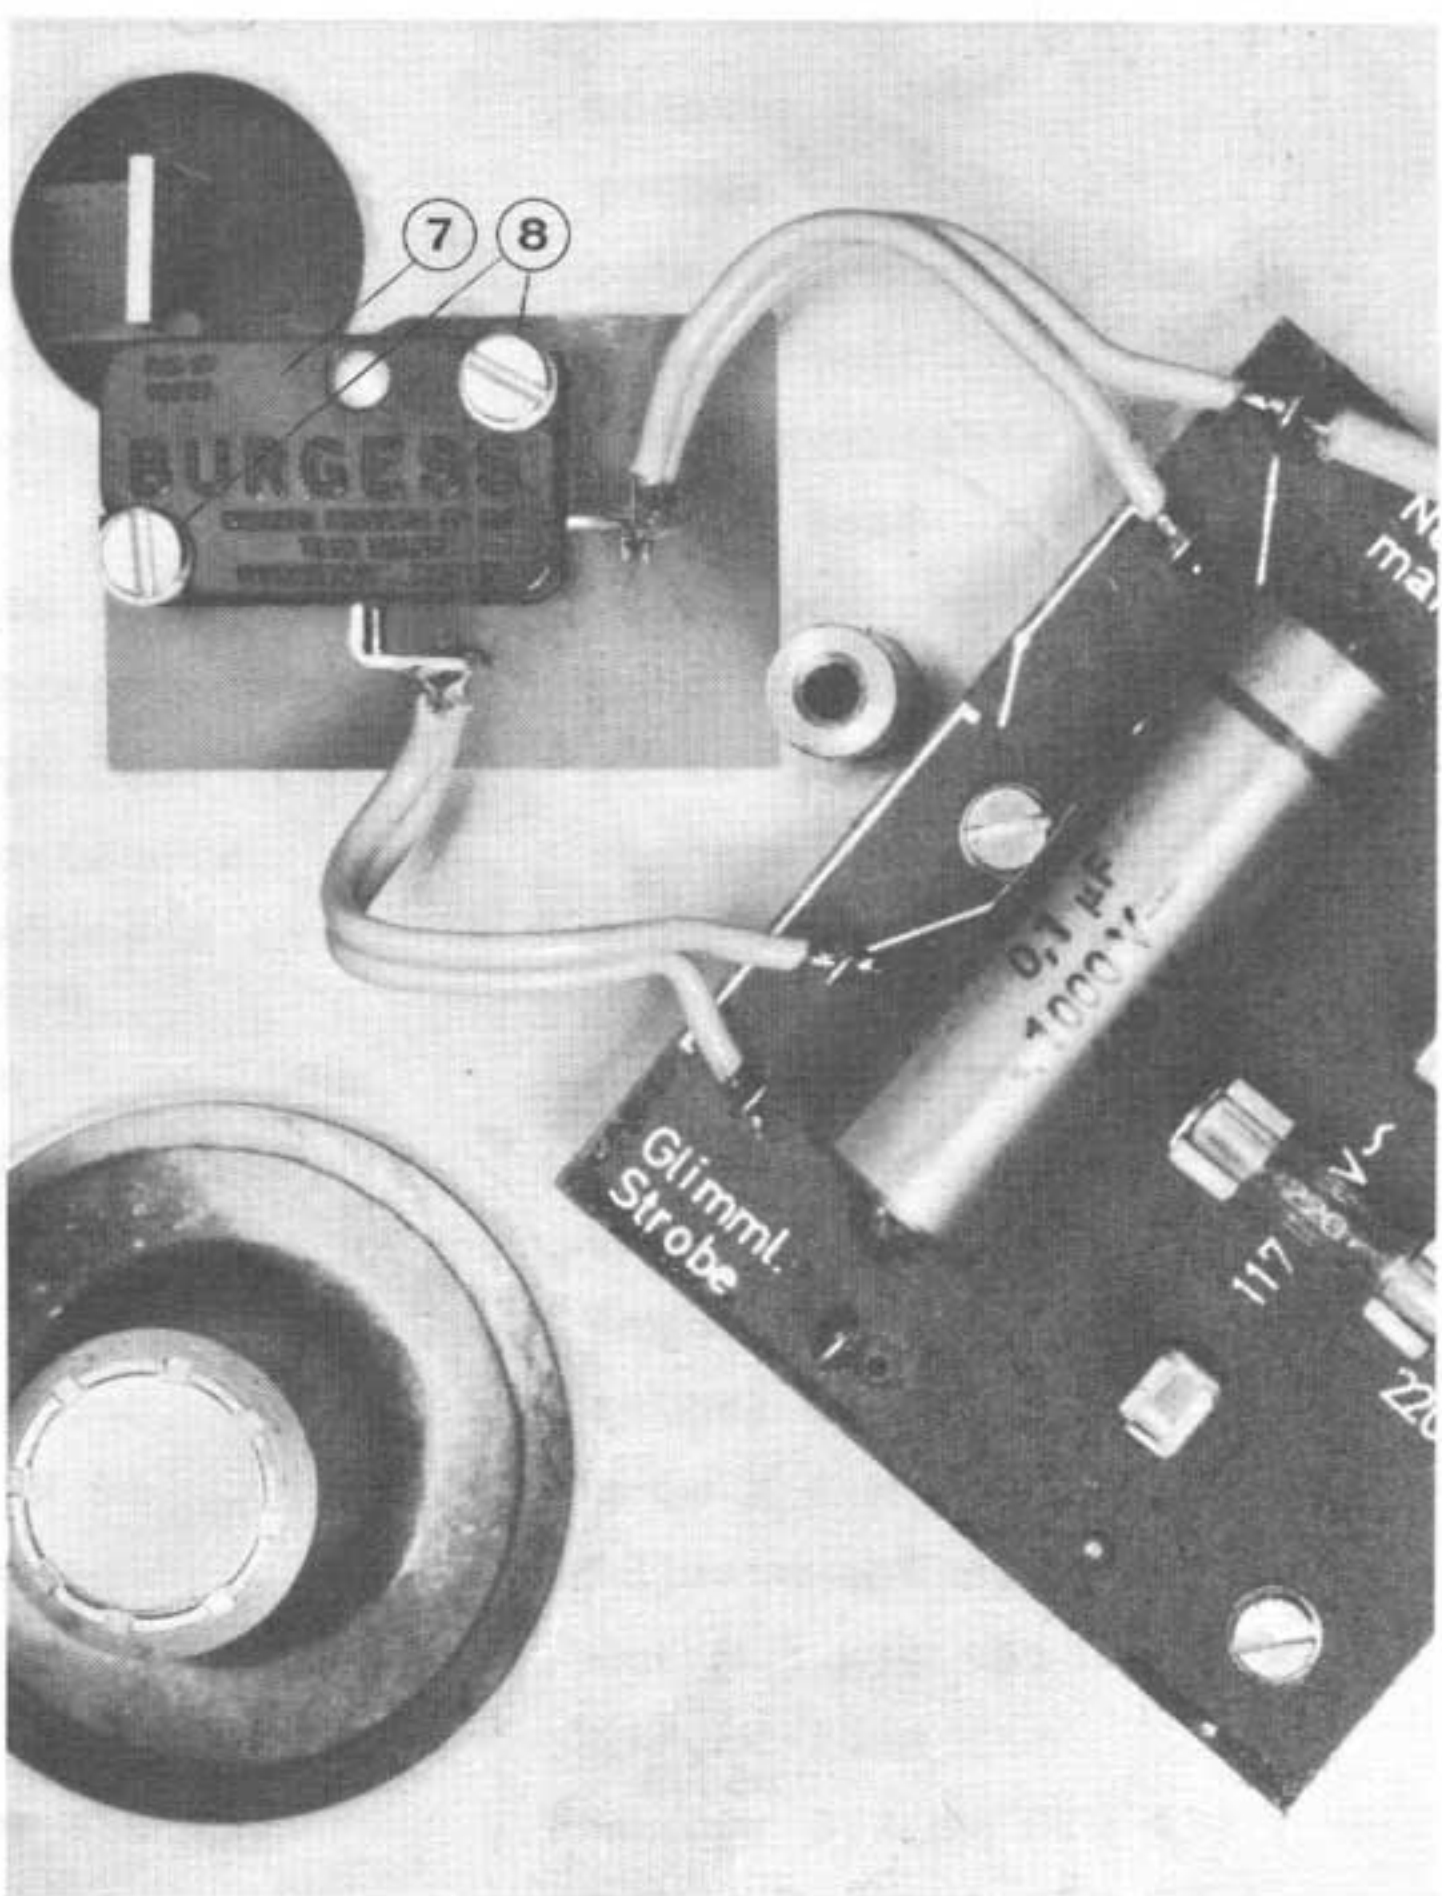

FIG. 5
The microswitch Fig. 5(7) is attached by means of two 3 mm metrical screws Fig. 5(8) which are screwed into a threaded plate behind the main chassis. After replacing the main switch it has to be adjusted in such a way that the switch lever positively actuates the switch.